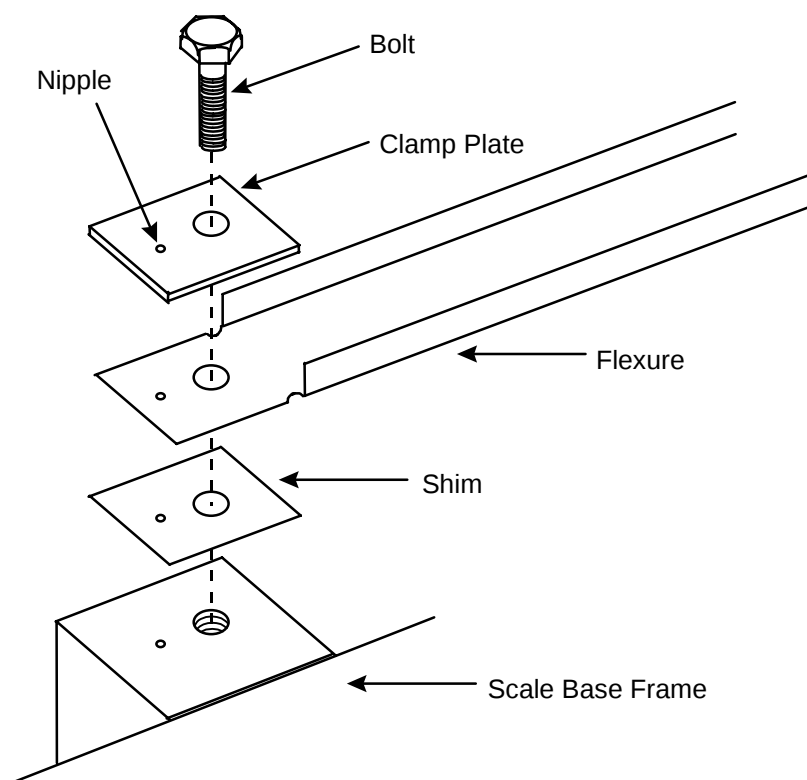

Figure 4-7: Shim Placement for 20" x 20" Scale Base
- For 20" x 20" bases, align the nipple on each clamp plate and shim with the locating hole on the flexure (see Figure 4-7).
3. Place a shim under the flexure at each location (as shown in Figures 4-7 and 4-8), and replace the bolt. Make sure that the flexure, clamp plate, and shim are aligned so that there is no mechanical binding to prevent the scale base from moving freely. Torque the bolts to 55 ft-lb for 20" x 20" bases and to 90 ft-lb for 24" x 30" bases. We recommend starting with the thinnest shim and gradually increasing the shim thickness as needed to balance the weight readings.